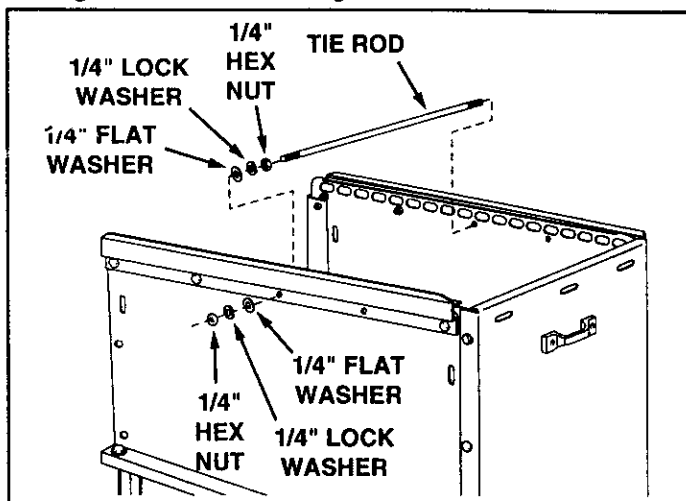

FIGURE 14
- Assemble a 1/4" hex nut, 1/4" lock washer and 1/4" flat washer onto each end of a tie rod. Insert the rod ends through the middle hole in each side panel and side bracket. Assemble another 1/4" flat washer, 1/4" lock washer and 1/4" hex nut onto each end of the tie rod. Adjust the hex nuts to make the sides the same distance apart at the middle of the cart as at the front. **Tighten** the nuts. See figure 14.